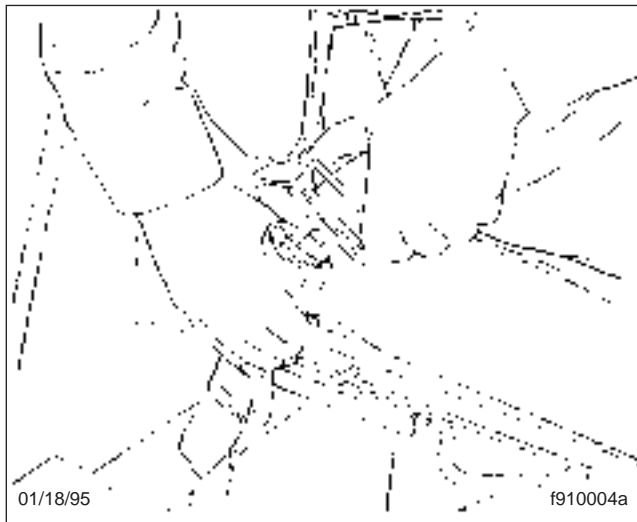

Fig. 5.8, Fastening the Three-Point Belt
2. Fasten the three-point seat belt by pushing the link into the buckle until it latches (**Fig. 5.8**). Give the belt a tug at the buckle. If the buckle unlatches, repeat this step. If the problem continues, replace the three-point seat belt.
2. Fasten the three-point seat belt by pushing the latch into the buckle. Listen for an audible click. See **Fig. 5.8**.